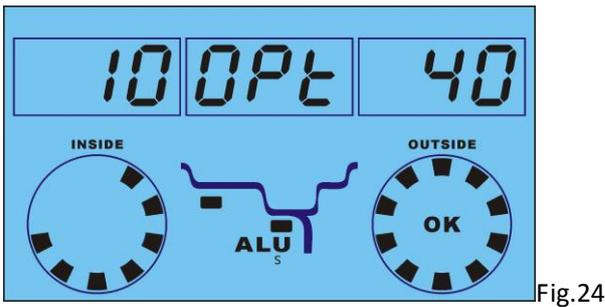
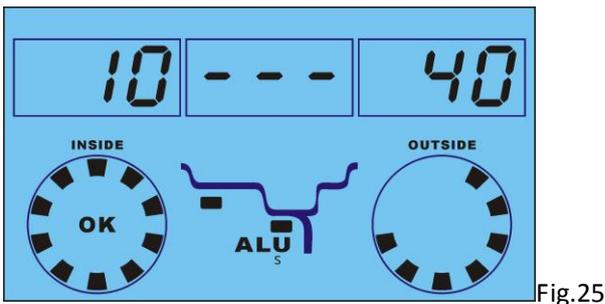

Fig.24
Fig.25
When in Fig. 24, press [STOP] + [ALU], change to Fig.25
10.2.1. Rotate wheel by hand until the left flash bar light full (Fig. 25), put proper weigh on the gauge head,